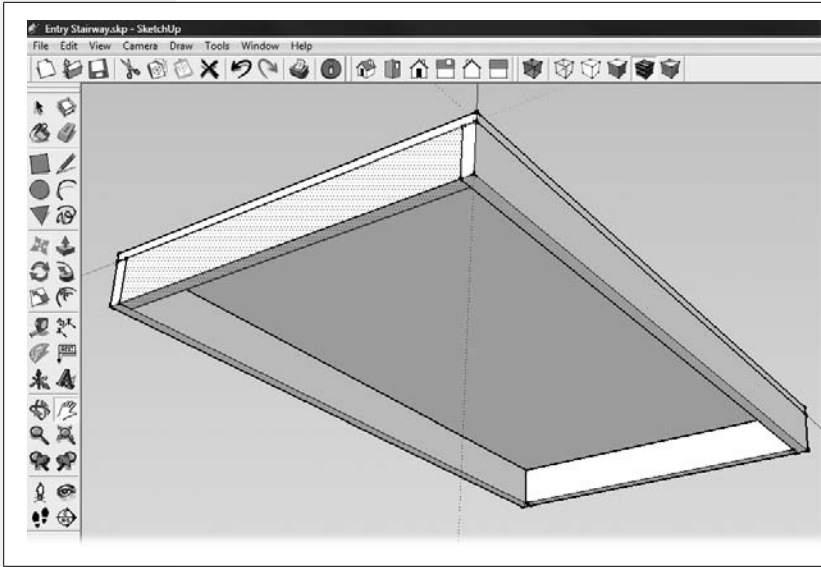

Figure 7-6:
21. Click the upper-left corner of the short frame component, and then click the upper-right corner of the frame board on the left, as shown in Figure 7-6.
The move operation places a duplicate piece of framing at the end of the flooring. When you’re finished, the frame around the bottom of the floor is complete, and it looks like Figure 7-6.